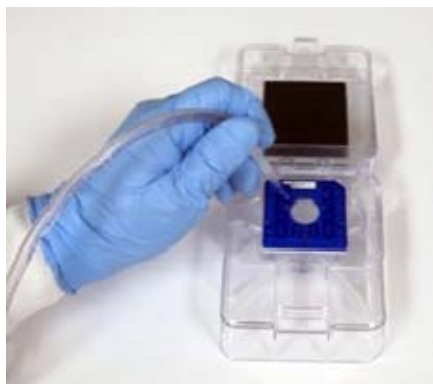

Figure 2. Using a vacuum to aspirate the chip wells is more effective than using a pipette.
- 2 Use a pipette tip attached to a vacuum line to thoroughly aspirate all fluid from the chip wells (see Figure 2). For more details on how to set up a vacuum line see page 29.